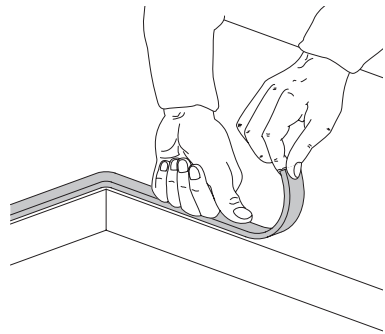

Fig. 4: positioning the insulating gasket
- Carefully position the supplied insulating gasket along the external perimeter of the hole created on the worktop, trying to make it adhere along the entire surface by slightly pressing it by hand [Fig. 4].